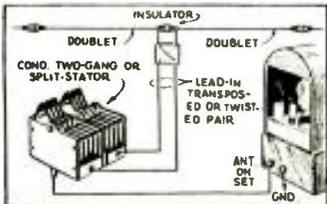

Fig. 2. Connecting a S.W. doublet.
**CONNECTING A SHORT-WAVE DOUBLET.** A lead-in of the transposed type or of the twisted type may be efficiently coupled to a set not provided with doublet antenna posts, as shown in Fig. 2, by utilizing a 2-gang or a split-stator condenser. The capacity of each section should be about 100 mmf. and is not at all critical. The condenser may be mounted out of sight, since once the adjustment is made it need not be changed, unless a "dead spot" is encountered, in which case a small change of capacity will cure the trouble.